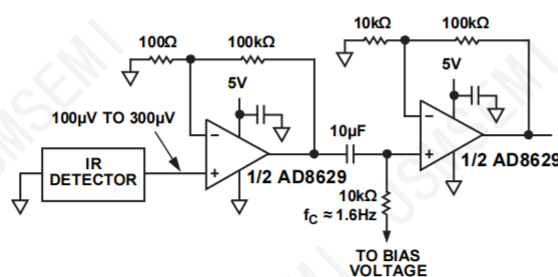

Figure 1. AD8629 Used as Preamplifier for Thermopile
Infrared (IR) sensors, particularly thermopiles, are increasingly being used in temperature measurement for applications as wide ranging as automotive climate control, human ear thermometers, home insulation analysis, and automotive repair diagnostics. The relatively small output signal of the sensor demands high gain with very low offset voltage and drift to avoid dc errors. If interstage ac coupling is used, as in Figure 1, low offset and drift prevent the output of the input amplifier from drifting close to saturation. The low input bias currents generate minimal errors from the output impedance of the sensor. As with pressure sensors, the very low amplifier drift with time and temperature eliminate additional errors once the temperature measurement is calibrated. The low 1/f noise improves SNR for dc measurements taken over periods often exceeding one-fifth of a second. Figure 1 shows a circuit that can amplify ac signals from 100 μ V to 300 μ V up to the 1 V to 3 V levels, with a gain of 10,000 for accurate analog-to-digital conversion.